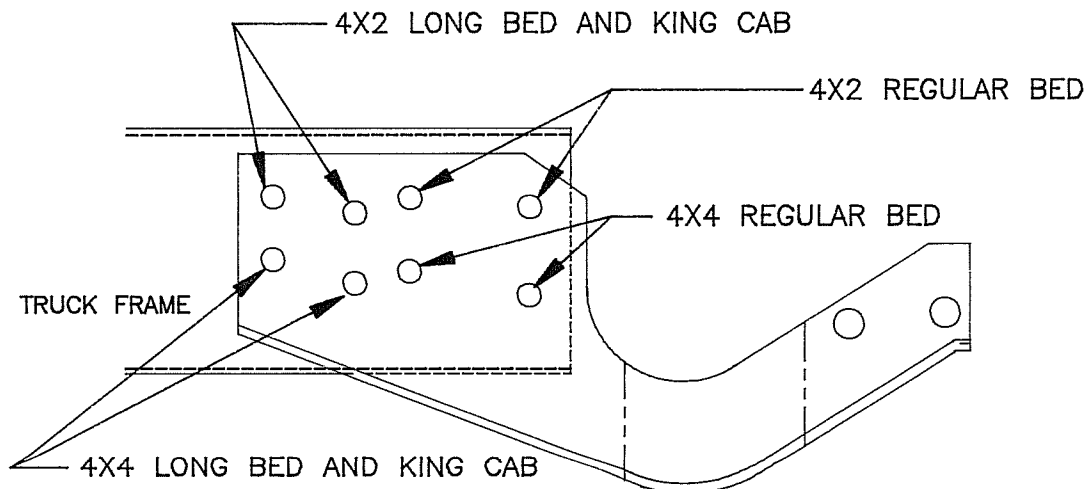

FIGURE 1 (driver side view)
STEP 1: Using 1/2 inch hardware, loosely install mounting brackets on the outside of truck frame rails with the offset inwards. Refer to figure 1 and 2. DO NOT TIGHTEN mounting hardware.